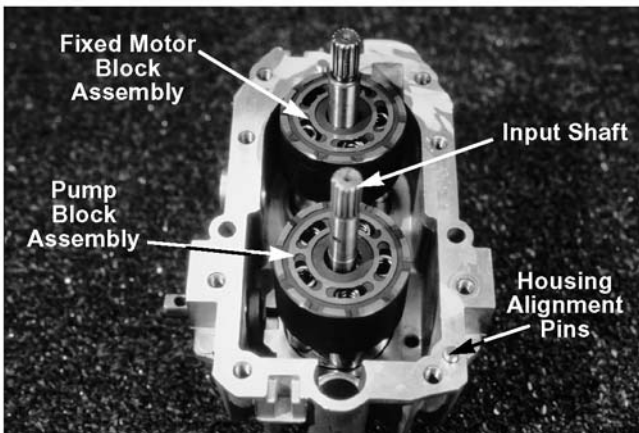

Figure 5-22.
- D. Housing alignment pins. See Figure 5-22.